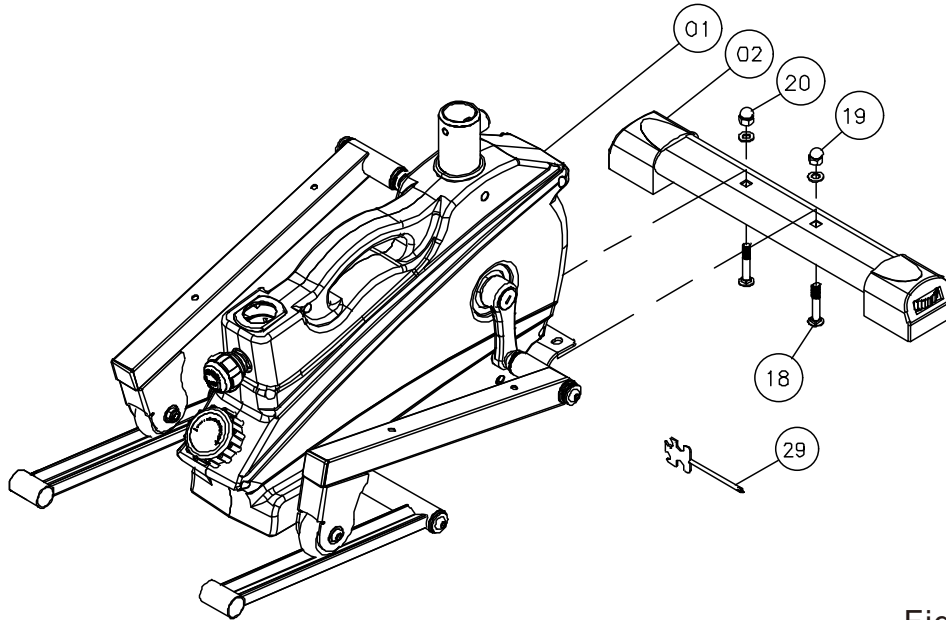

Figure 1
1. Fix the Main frame assembly (No. 01) and the Foot Tube Group (No. 02) together using 2 No. 18 Cart screw, No. 19 Flat gasket, No. 20 High block shot. As shown in Figure 1: